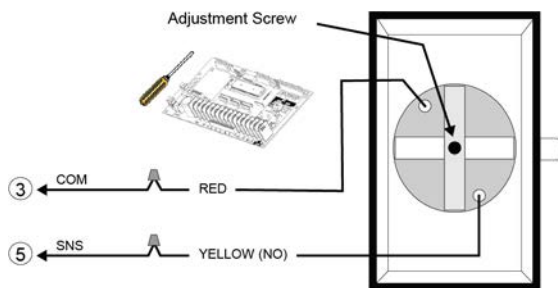
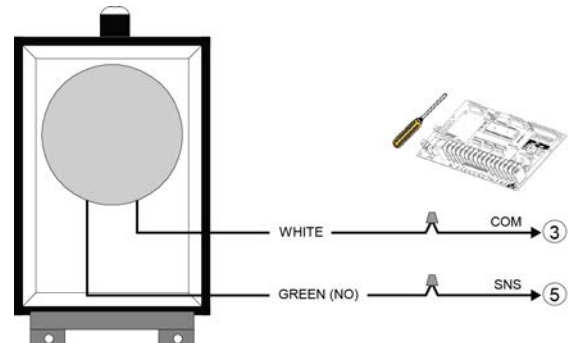

Figure 28 - AIRSWITCH 001 / 007
Figure 29 - AIRSWITCH 009 / 018
3. Use a coil cord or take-up reel to connect the air switch to the operator terminals. Install electric wires according to Figure 28 or Figure 29.